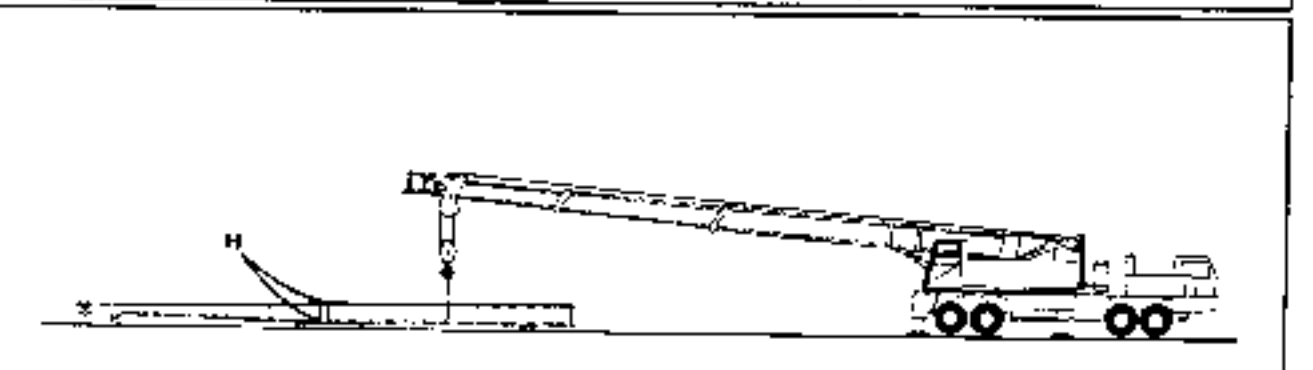

Fig. 4-17
Step 6: Remove the top pins at "G" and retract the boom tip section. Level the machine. Using the main hoist, raise the rear end of the jib extension and re-block level as in Fig. 4-17.